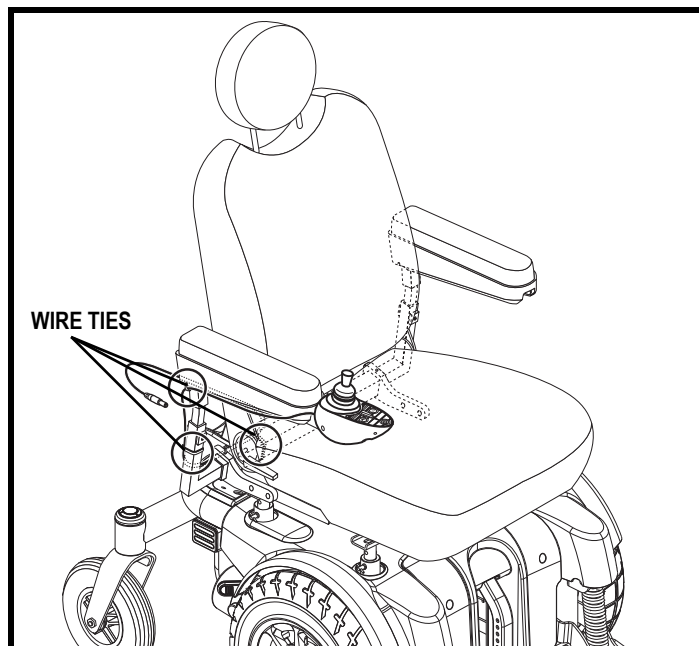

Figure 11. Controller Harness Routing – Contour Seat
7. Route the harness to ensure that the harness cannot be pinched in the seat hinge. See figure 11 or 12.